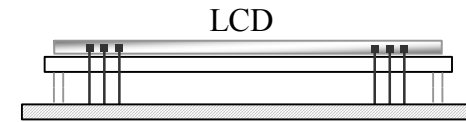

Figure 5-11
- The LCD must be seated flat against the diffuser as shown in the edge view (Figure 5-11). If the LCD does not appear to be seated correctly, it may be because the backlight LEDs or spacers are misaligned. When the assembly is installed correctly, the LCD's pins will all protrude the same distance from the bottom of the board. The leads *may* not extend through the solder pad holes.